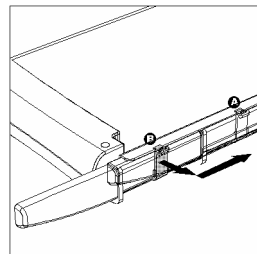

Fig. 3
- 6 In order to lock the guillotine arm again after finishing your work, move the guillotine arm down as far as possible, pull the locking latch at Position B out a little and slide it back to Position A (Fig. 3).